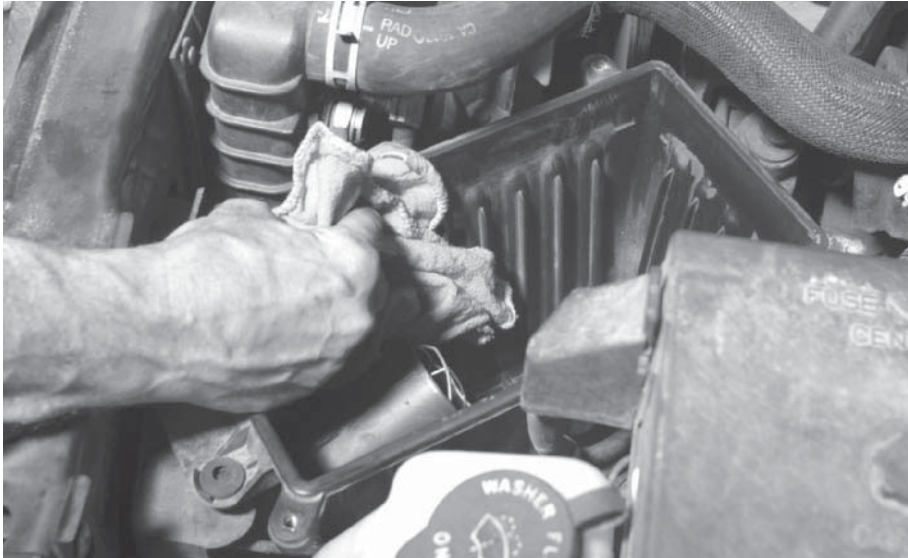

Figure 11-15 Air filter replacement step 3: clean the inside of the filter housing, including the bottom of the cover.
Step 3. Before you put in a new filter, the inside of the filter housing must be cleaned. Use a slightly oiled rag or paper towel to wipe and remove any debris inside the housing (**Figure 11-15**). A vacuum cleaner also works well